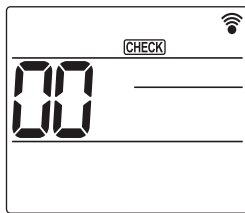

Fig. 6-7
- Press the **MENU** button for 5 seconds. (Fig. 6-7)